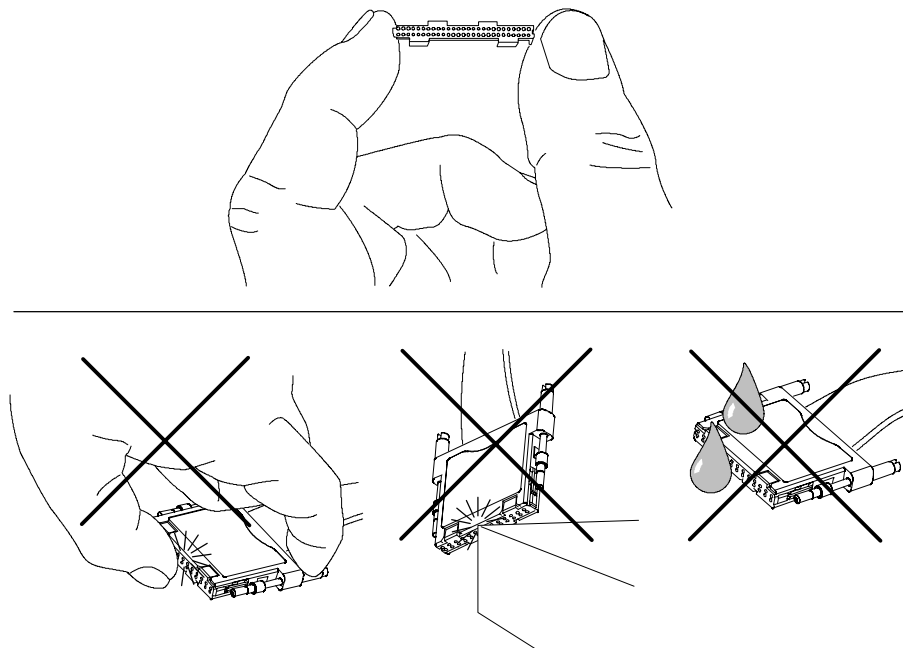

Figure 9: Proper handling of the interface clip
- The cLGA interface clips should always be handled by the outer edges, being careful to avoid the contacts in the center. Contacts should not be touched with fingers, tools, wipes, or any other devices. See Figure 9.